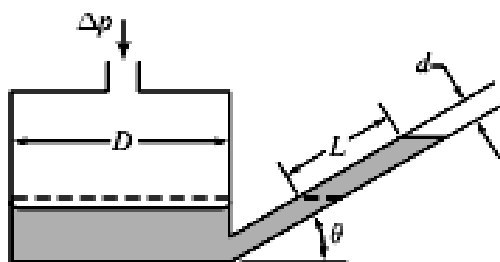

Fig. 1
- (b) The inclined-tube manometer as shown in Fig.1 has $D = 76$ mm and $d = 8$ mm, and is filled with Meriam red oil. Compute the angle θ that will give a 15cm oil deflection along the inclined tube for an applied pressure of 25 mm of water (gauge). Specific gravity of Meriam red oil = 0.827. [[CO2](Evaluate/HOCQ)]